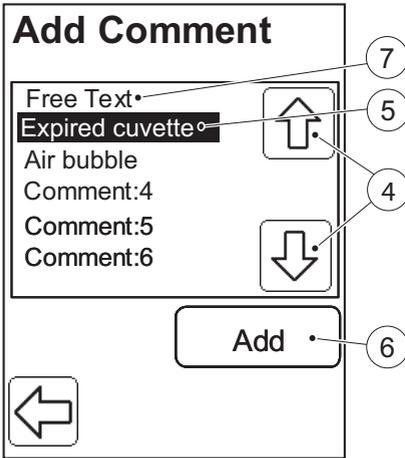

FIGURE 6-16
FIGURE 6-16 will be displayed.
- e) If more comments are to be added, press the Add button (9) again and repeat the procedure according to *FIGURE 6-16*.